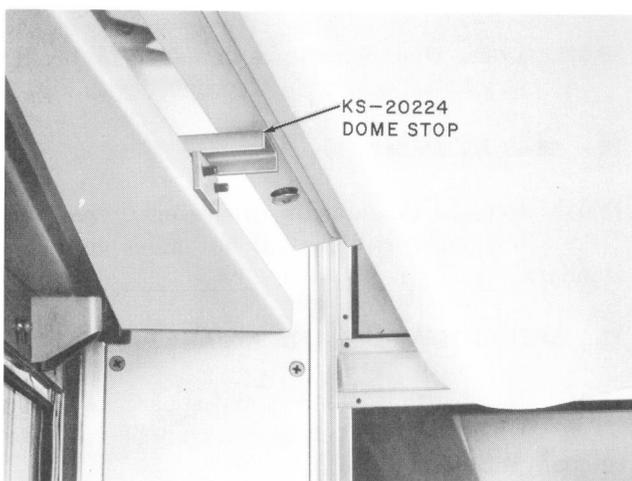

Fig. 7—KS-20224 Dome Stop Installed
- 10.02 Dome stops which are damaged or broken should be replaced in accordance with Fig. 7.